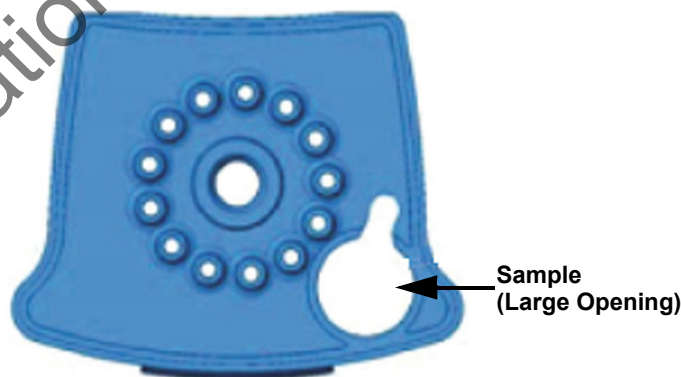

Figure 1. Xpert *C. difficile* Cartridge (Top View)
6. Open the cartridge lid. Using a clean transfer pipette (not supplied), transfer the entire contents of the Sample Reagent to the Sample chamber of the Xpert *C. difficile* Assay cartridge (Figure 1).